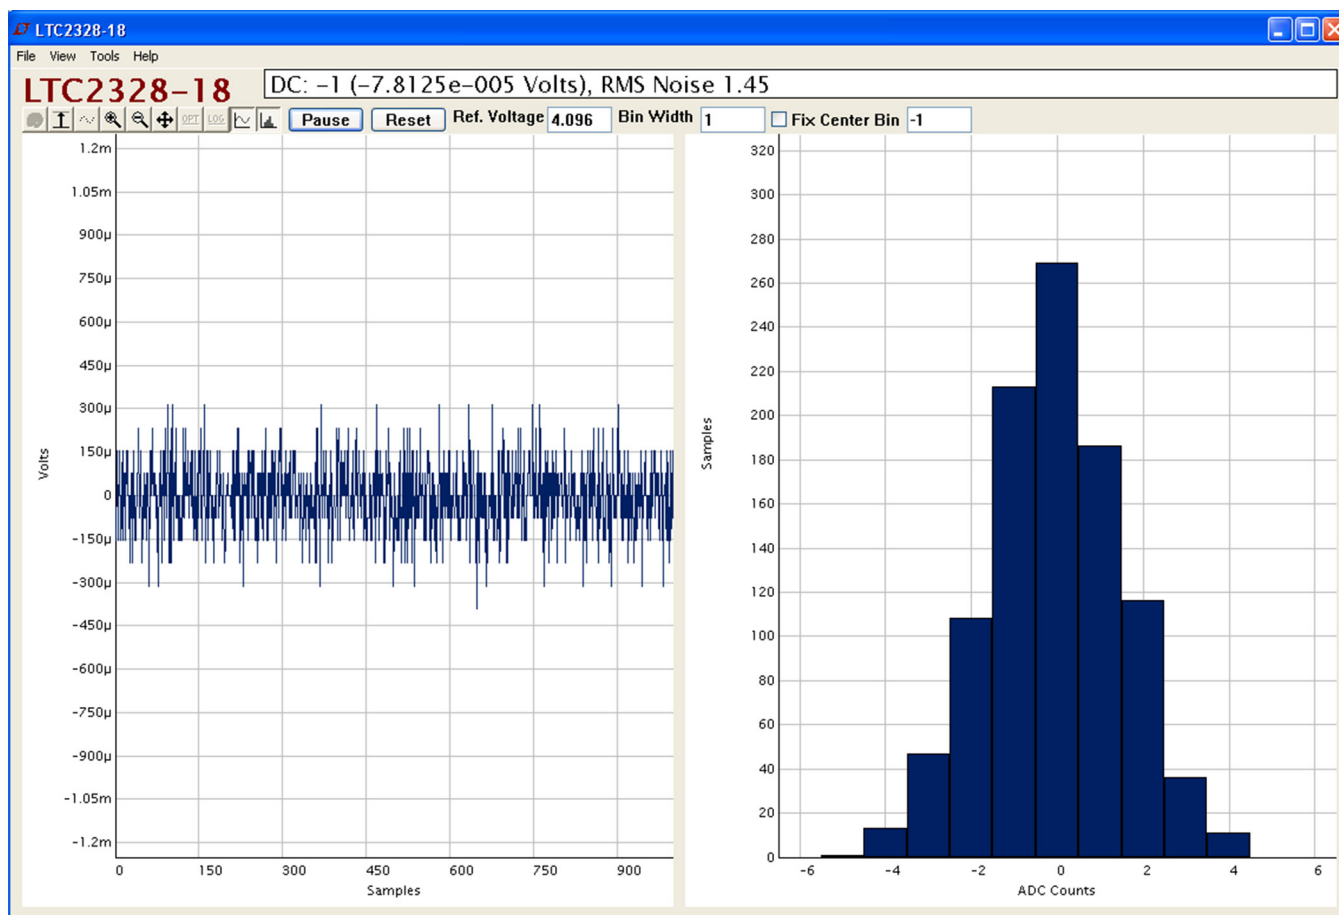

Figure 3. QuikEval Screenshot Captured with a 50Ω Terminator on AIN
6. Click the COLLECT button (Figure 3) to begin reading the ADC.
To observe measurements from QuikEval, use a DC590 or program a DC2026 with a DC590 sketch from an Arduino IDE. Then launch QuikEval, a typical data capture and histogram are shown in Figure 3.